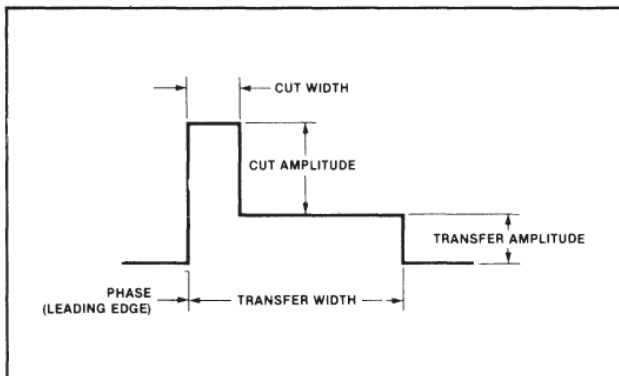

Figure 5. Two-Level Current Pulse
3. Two level pulses are described as shown below in Figure 5.